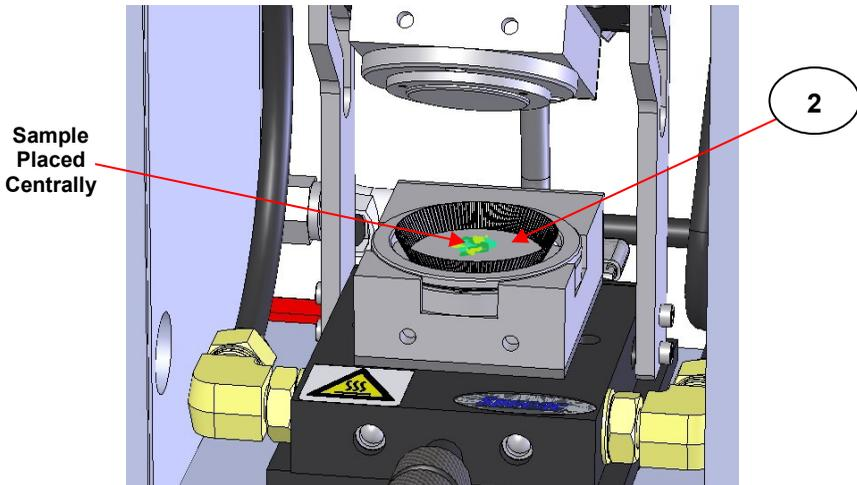

Fig 17. Lower Aluminium Sample Cup and Sample Positioned in Lower Heated Pressing Surface Assembly
Take the sample to be melted and pressed and place it carefully into the centre of the lower foil disc (21) or sample cup (22). The amount of sample to use will vary depending on the thickness of spacer ring (18) chosen. (See Fig 17.)
Polymeric samples in bead form may require pre-crushing while cold so that the Top Half Assembly may be mounted more easily for the **Sampling Position** when a foil disc/sample/foil disc “sandwich” has been positioned into the Lower Half Assembly. (See page 28, **Fig 17.**) Pre-crushing can be done in a Specac Press itself (without the Atlas™ High Temperature Film Maker Accessory in position) using a 13mm diameter evacuable pellet die P/N GS03000.